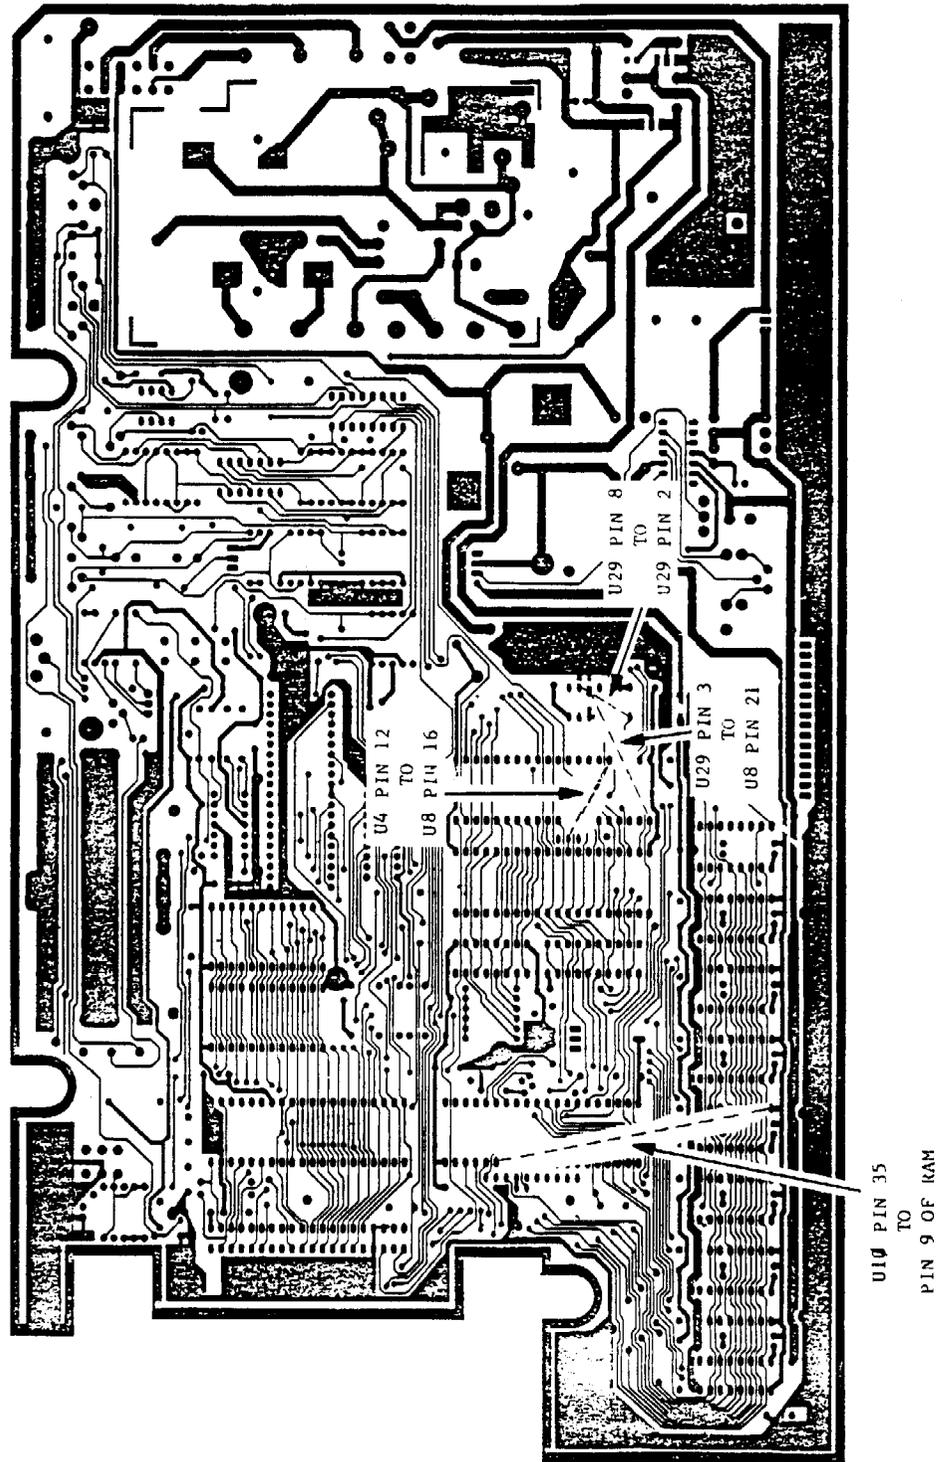

FIGURE 4
16) Using wire wrap wire, install the following jumpers on the FOIL side of the PCB. See Figure 4 for location.